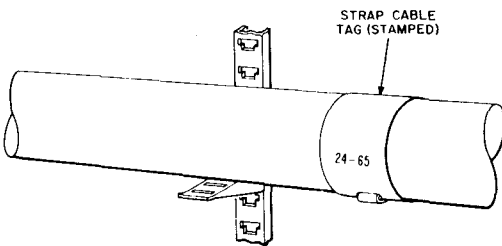

Fig. 3—Strap Cable Tag Installed
4.01 The tag (with the cable size and the year), can be attached to the sheath as shown in Fig. 3. The tag should be placed around the sheath and the tongue pulled through the slot and bent back on itself to hold it in place.